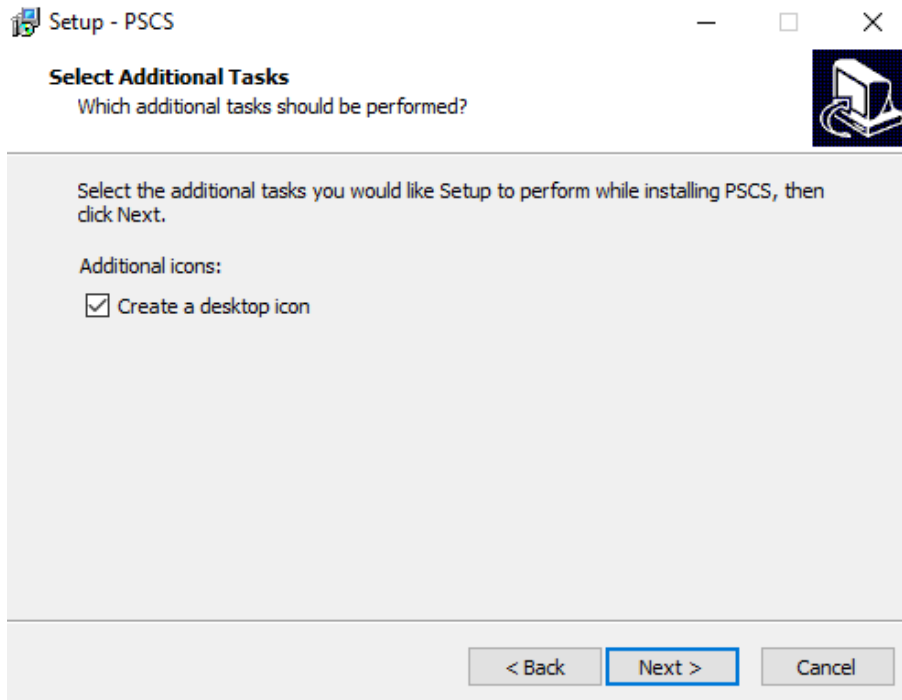

Figure 7.7
7. Check the box if you would like to create a desktop shortcut and click “Next” to continue. Figure 7.7